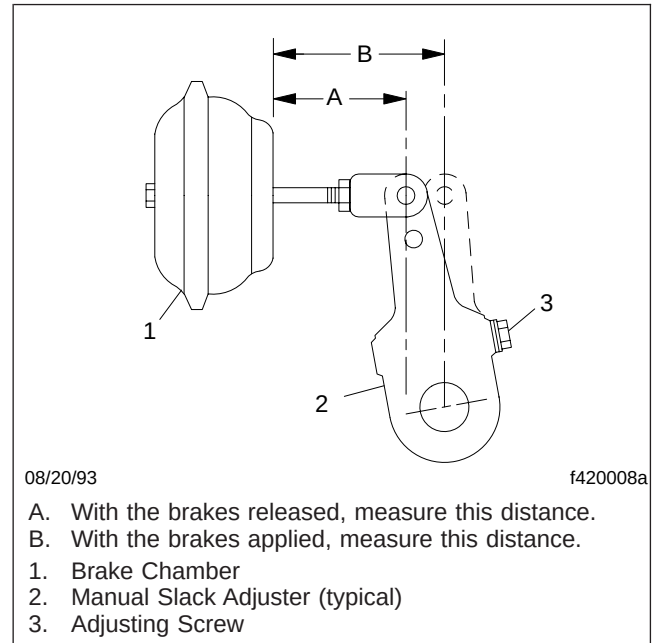

Fig. 1, Measuring Brake Adjustment
- 1.1 With the brakes released, measure the distance from the face of the air chamber to the centerline of the clevis pin (Fig. 1, Ref. A). Record the exact distance as measurement A.
- 1.2 Apply the service brakes and hold them on full line pressure of at least 80 psi (550 kPa). Measure the distance from the face of the brake chamber to the centerline of the clevis pin (Fig. 1, Ref. B). Record the exact distance as measurement B.
- 2.1 Wipe clean the adjusting screw hexhead. See Fig. 1. Place a wrench or socket over the adjusting screw hexhead.
- 1.1 With the brakes released, measure the distance from the face of the air chamber to the centerline of the clevis pin (Fig. 1, Ref. A). Record the exact distance as measurement A. To be allowable, measurement A must be within this range: 2-9/16 to 2-11/16 inches (65 to 68 mm).
- 2.1 With the brakes released, measure the distance from the face of the air chamber to the centerline of the clevis pin (Fig. 1, Ref. A). Record the exact distance as measurement A.
- 3.1 Wipe clean the adjusting screw hexhead. See Fig. 1. Position a wrench or socket over the adjusting screw hexhead.